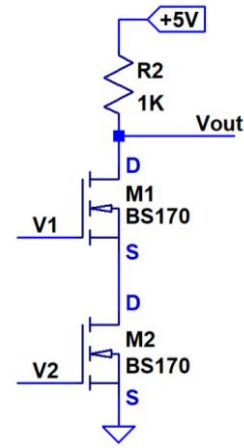

Fig. 3. Logic circuit 2.
- c. Construct the circuit of Fig. 3 and repeat the measurements, recording data in Table 5.